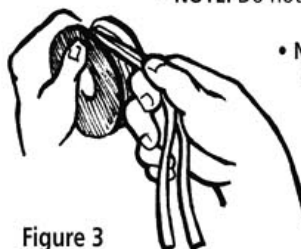

Figure 3
- Hold spool as shown (Figure 3) and feed line on neatly by rotating the spool counter clockwise, which is the preferred direction although the spool can be rotated in either direction.